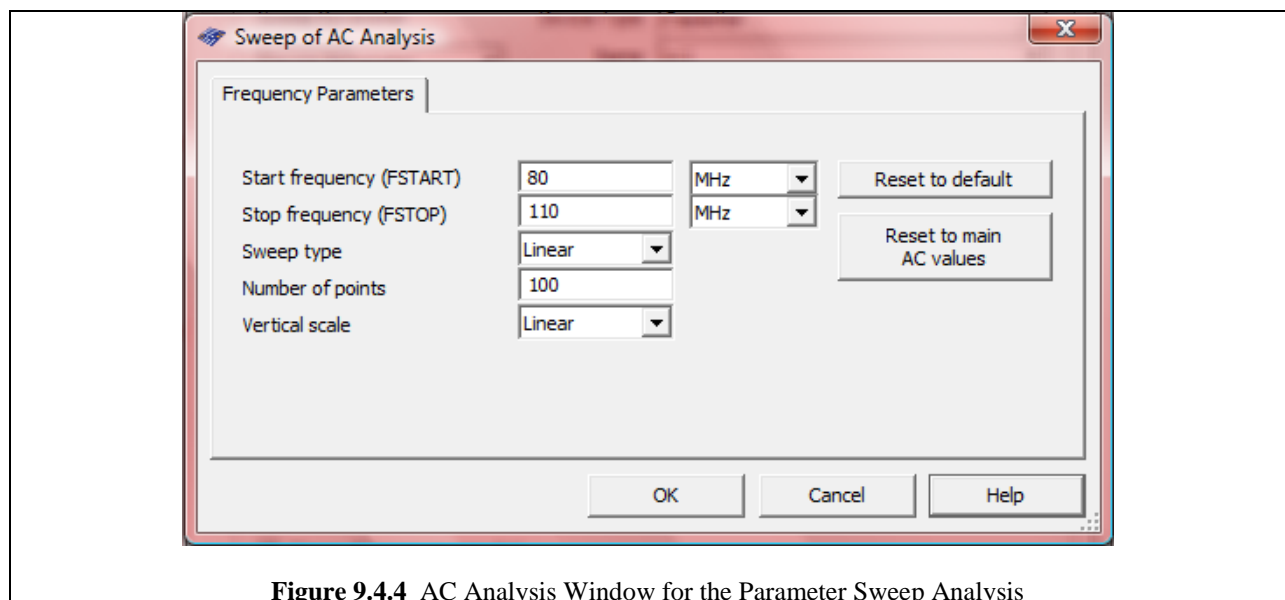

Figure 9.4.4 AC Analysis Window for the Parameter Sweep Analysis
12. Set it to the values shown in Figure 9.4.4.